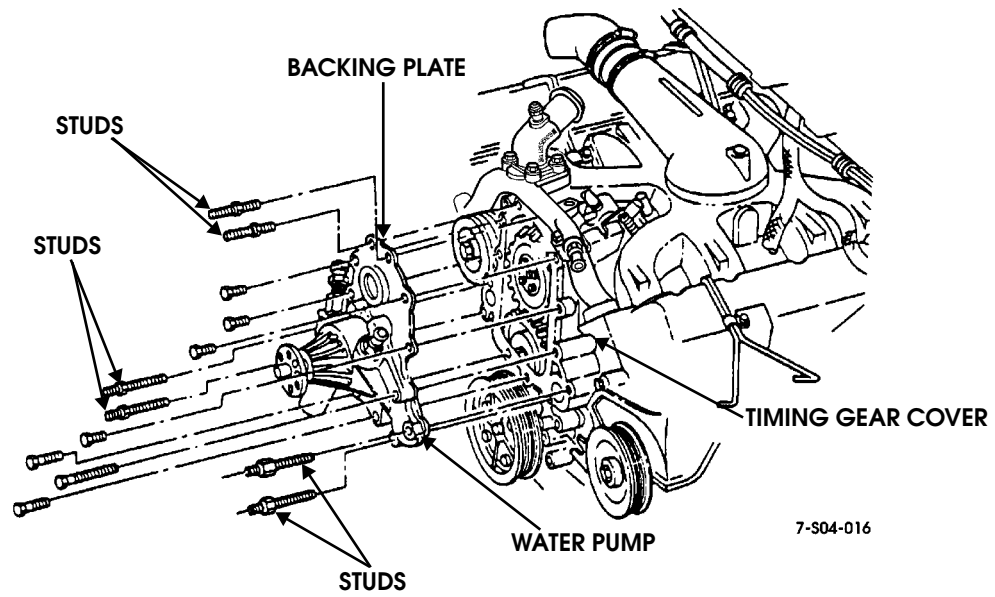

Figure 4-27: Water Pump and Adapter Plate Removal/Installation
8. Remove water pump and backing plate attaching bolts/studs and remove pump and plate as assembly (Figure 4-27).